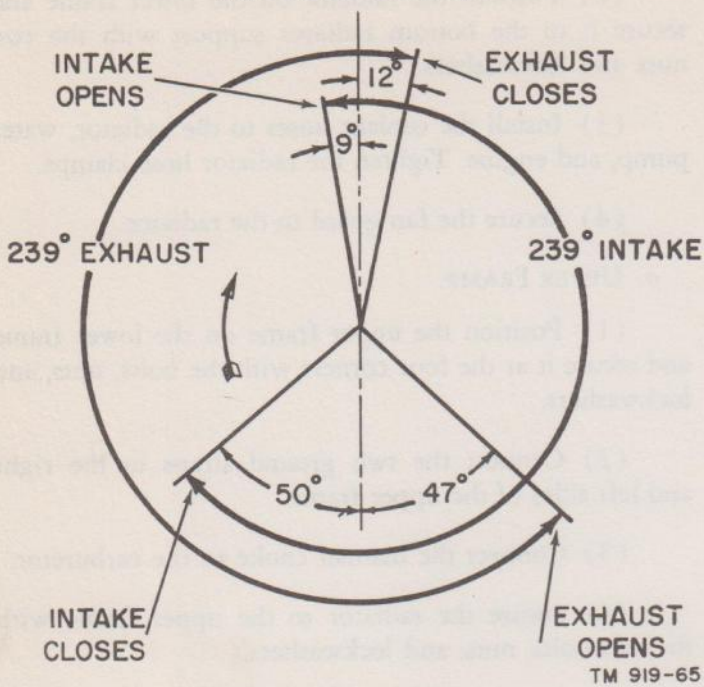

Figure 65. Valve timing.
b. VALVE TIMING. With the valves timed as instructed in paragraph 59*d*(4), check the timing as follows: Carefully adjust the inlet valve tappet for No. 1 cylinder to .020 inch. Rotate the crankshaft clockwise until the piston in the No. 1 cylinder is ready for the intake stroke. The intake opens 9° before top dead center as shown in figure 65. Note the distance between